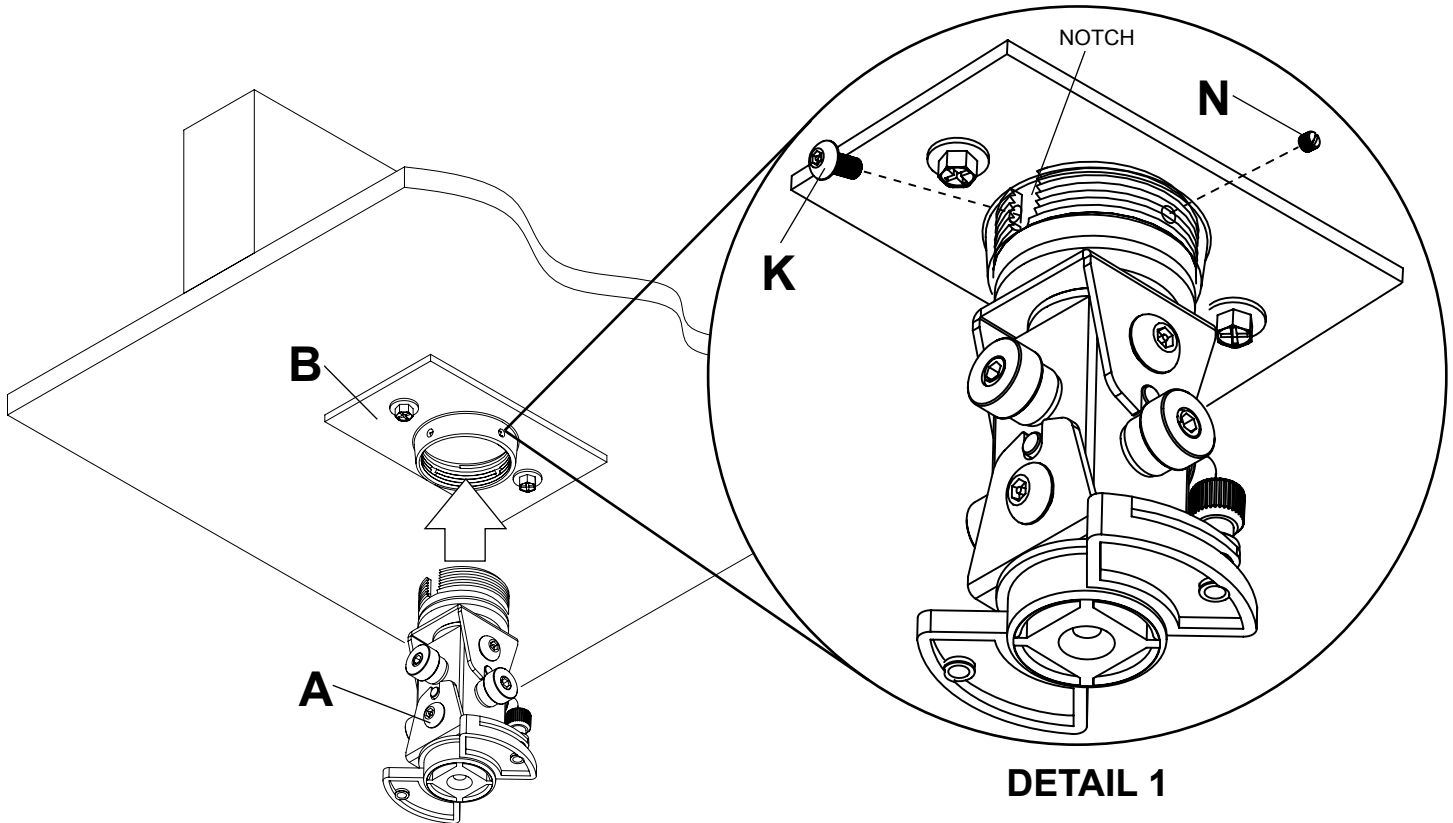

fig. 2.1
- Hand thread projector mount assembly (**A**) into ceiling plate (**B**) as shown in figure 2.1. Align the notch of projector mount assembly with one of the four holes in ceiling plate (**B**) and secure with an M5 x 10 mm socket pin screw (**K**) using allen wrench (**O**) as shown in detail 1.